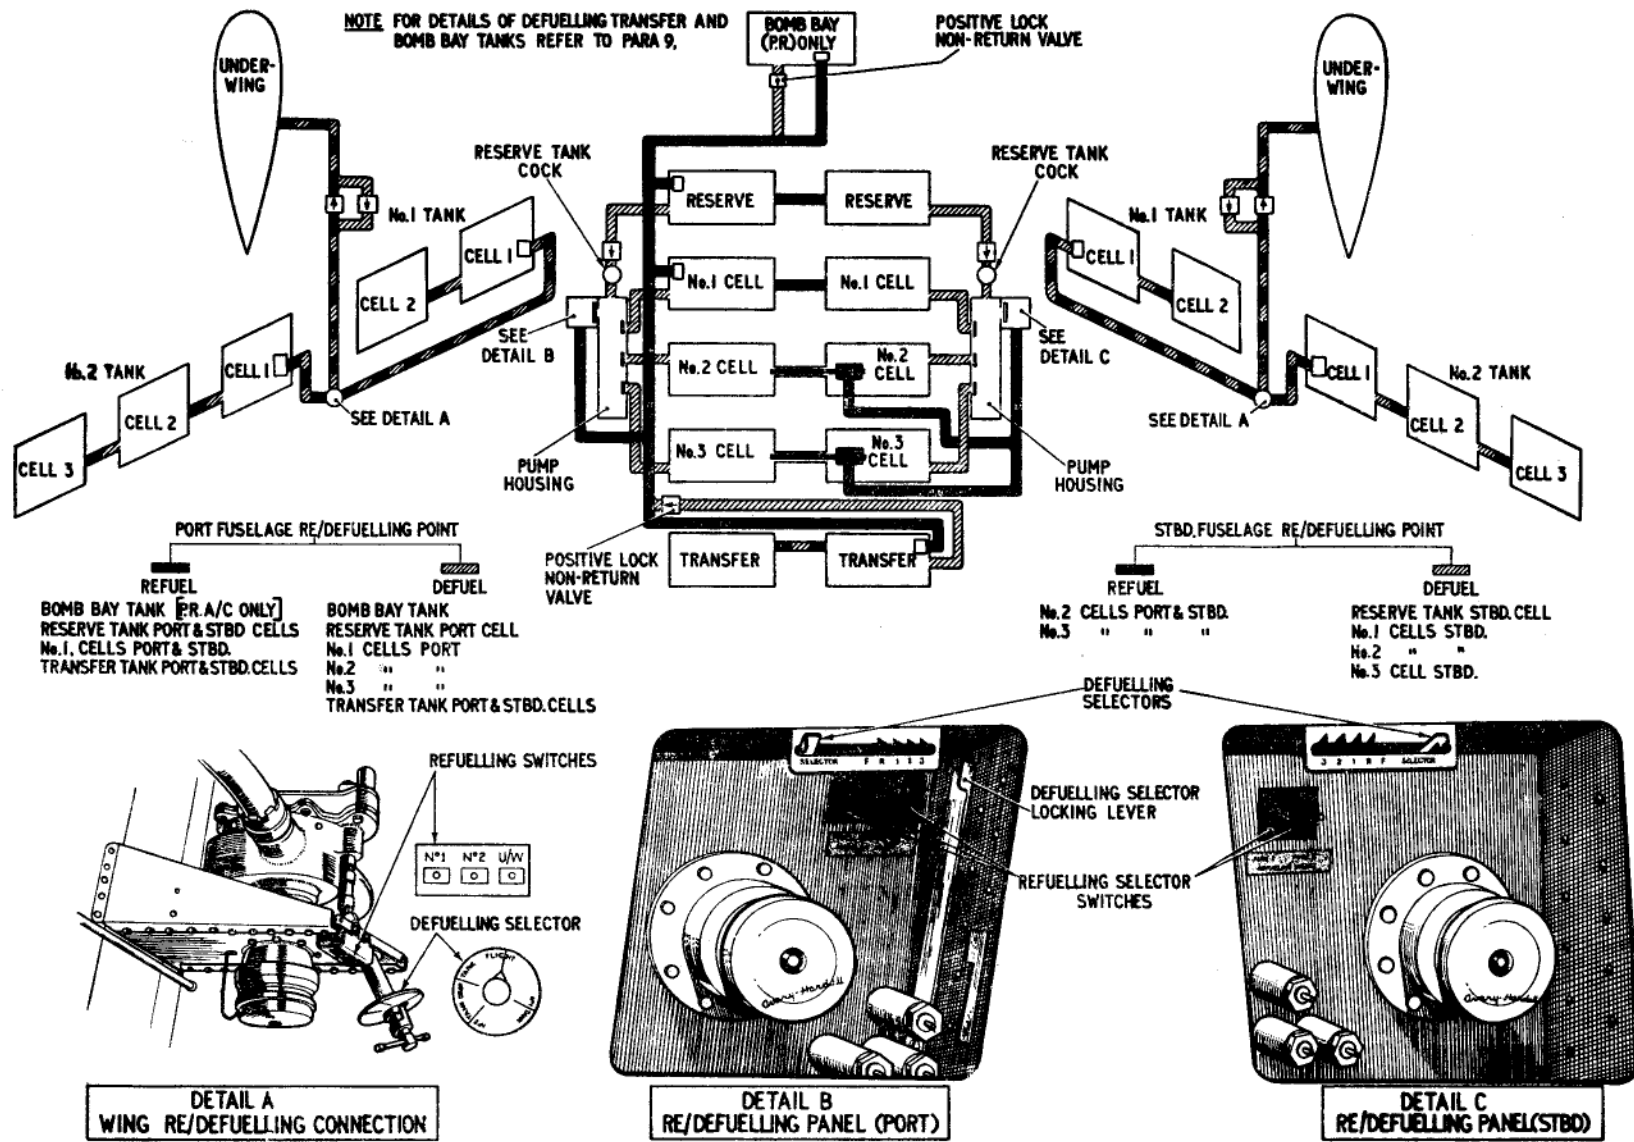

Fig. 1—Fuelling and defuelling diagram, B Mk. 1 & B/PR Mk. 1
A strut (fig. 1, Sect. 2, Chap. 4) is provided and must be fitted during all ground servicing operations. The strut is tubular, its head having a threaded attachment which should be screwed and locked into the anchorage on the centre line of the rear fuselage underside at Stn. 1046. The purpose of the strut is to give indication of tail movement in a downward direction. It is adjustable to four different lengths
REFUELLING (fig. 1, 2 and 3)**Refuelling connections**
4. On all aircraft variants the fuselage port refuelling connection serves the reserve tank, No. 1 fuselage cells and the transfer tank; on B/PR Mk. 1, B/K Mk. 1 and B/K/PR Mk. 1 aircraft it also serves the bomb-bay tank. The starboard refuelling connection serves fuselage cells No. 2 and 3 (fig. 1 and 2). To fill the fuselage tanks proceed as follows:—
5. The refuelling connection in each wing serves the underwing tank and the tanks in the wing to which it is fitted. Remove the access panel and leave the *defuelling selector* lever (fig. 1, detail A) at FLIGHT throughout the refuelling operation. Select the tank to be filled, using selector switches marked NO. 1, NO. 2 and U/W. Return the tank selector switches to OFF when the operation is complete (*para. 7*).
DEFUELLING (fig. 1 and 2)
After each selection on the defuelling selector, the locking lever (details, fig. 1 and 2) must be pulled down and engaged with the catch provided.